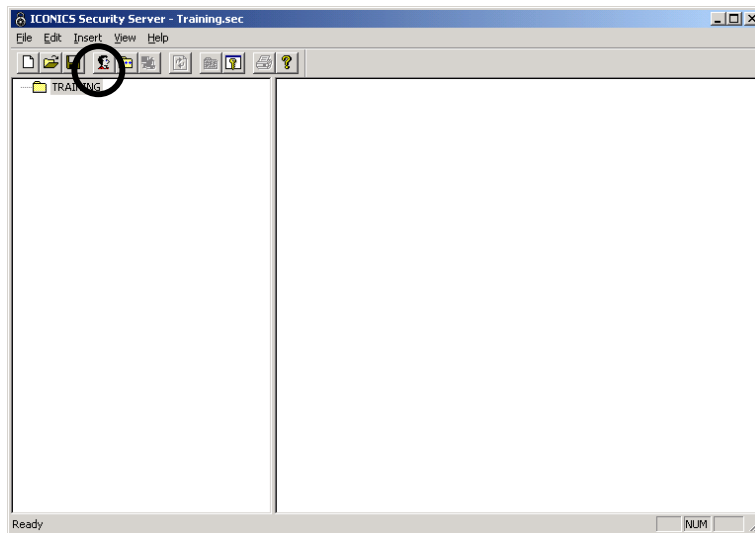

Figure 6.9
7. Now having set up our First group we will go ahead and create a user for that group. To do this click on the  icon that is circled in **Figure 6.9**. This will add a user to the right side of the security configurator and bring up the user properties dialog box. Set this user name to **Administrator** and set the password to **test**, you will have to verify this password also. For **Group** use the drop down menu and select **Training**. We will need to make sure that we have **User Cannot Change Password and Security Systems Administrator** checked and you will have to uncheck **Account Disabled**. Finally click **Apply** and **OK**.